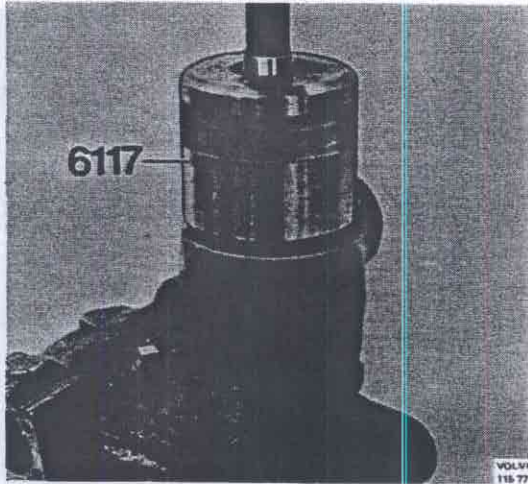

Fig. 46-86. Driving in rubber dust cover
7. Grease the guide edge of the rubber dust cover and bushing. Fit the dust cover over the shaft. Knock down the dust cover with 6117, Fig. 46-86.